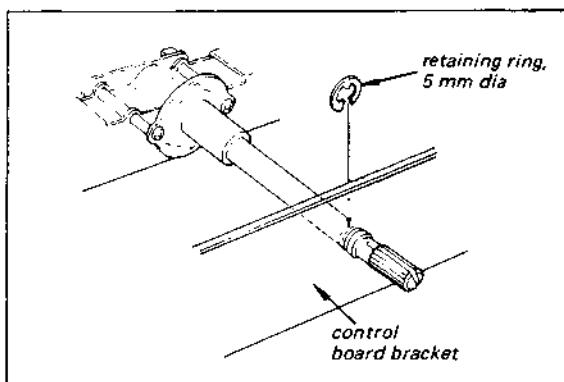

Fig. 2-8. Control board removal
1. Turn off the volume to the security. The speaker switch, filter switch, mode switch and function switch are located on the front subchassis as shown in Fig. 2-8.